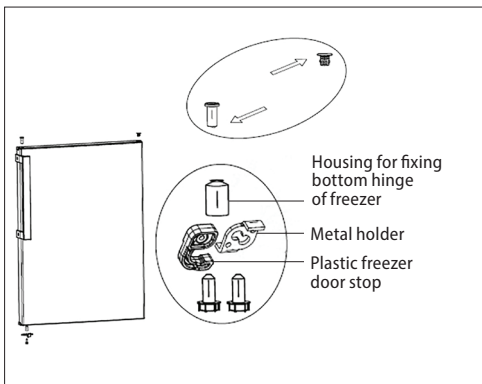

Fig. 5
11. Remove the housing for fixing the middle hinge of the refrigerator from the door of the freezer and place it on the other side of the door (Fig. 5).
12. Remove the plastic stop, the metal holder, and the housing for fixing the bottom hinge of the freezer from the bottom edge of the freezer door as shown in Fig. 5.
13. In the package with accessories, you can find the plastic stop, which, together with the metal holder and the housing, is to be installed on the other bottom edge of the freezer door (Fig. 5).